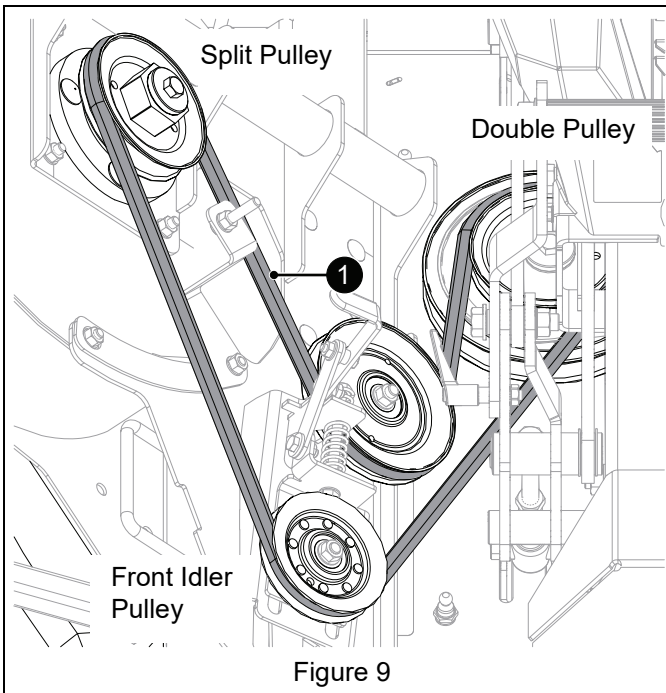

Figure 9
11. Install hex belt (item 1) onto blower and double pulley in the following order (see Figure 9):